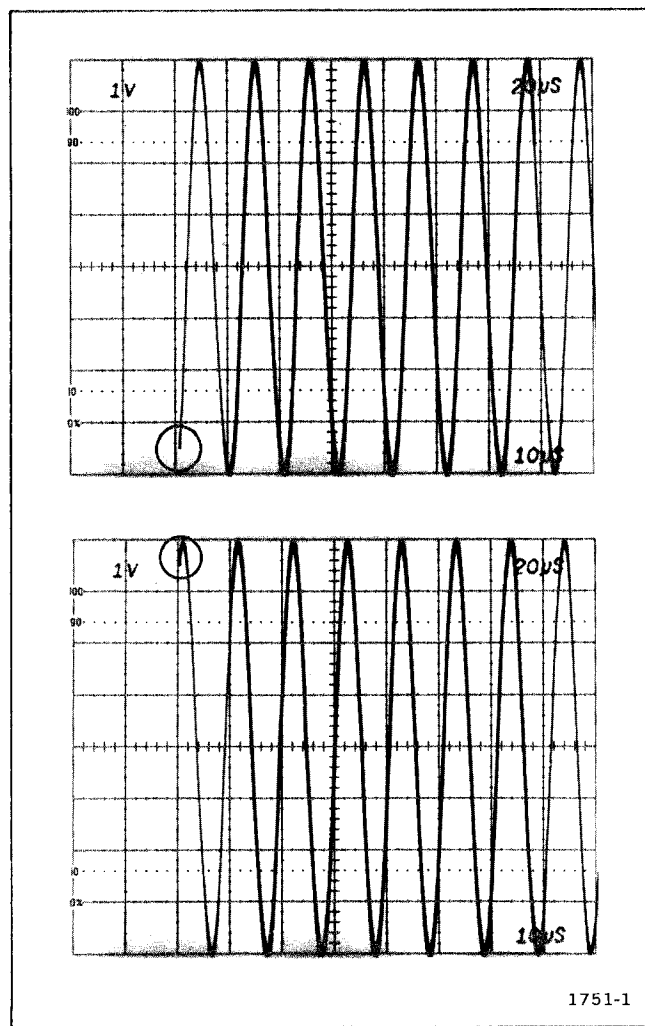

Fig. 5-7. Main Triggering level range. (Circle denotes triggering limits).
- c. Check—that all levels of the positive slope may be selected for the sweep starting point as the MAIN TRIGGERING LEVEL control is rotated throughout its range, and that triggering occurs at least 3.5 divisions above and below the center horizontal graticule line. See Fig. 5-7 for reference.